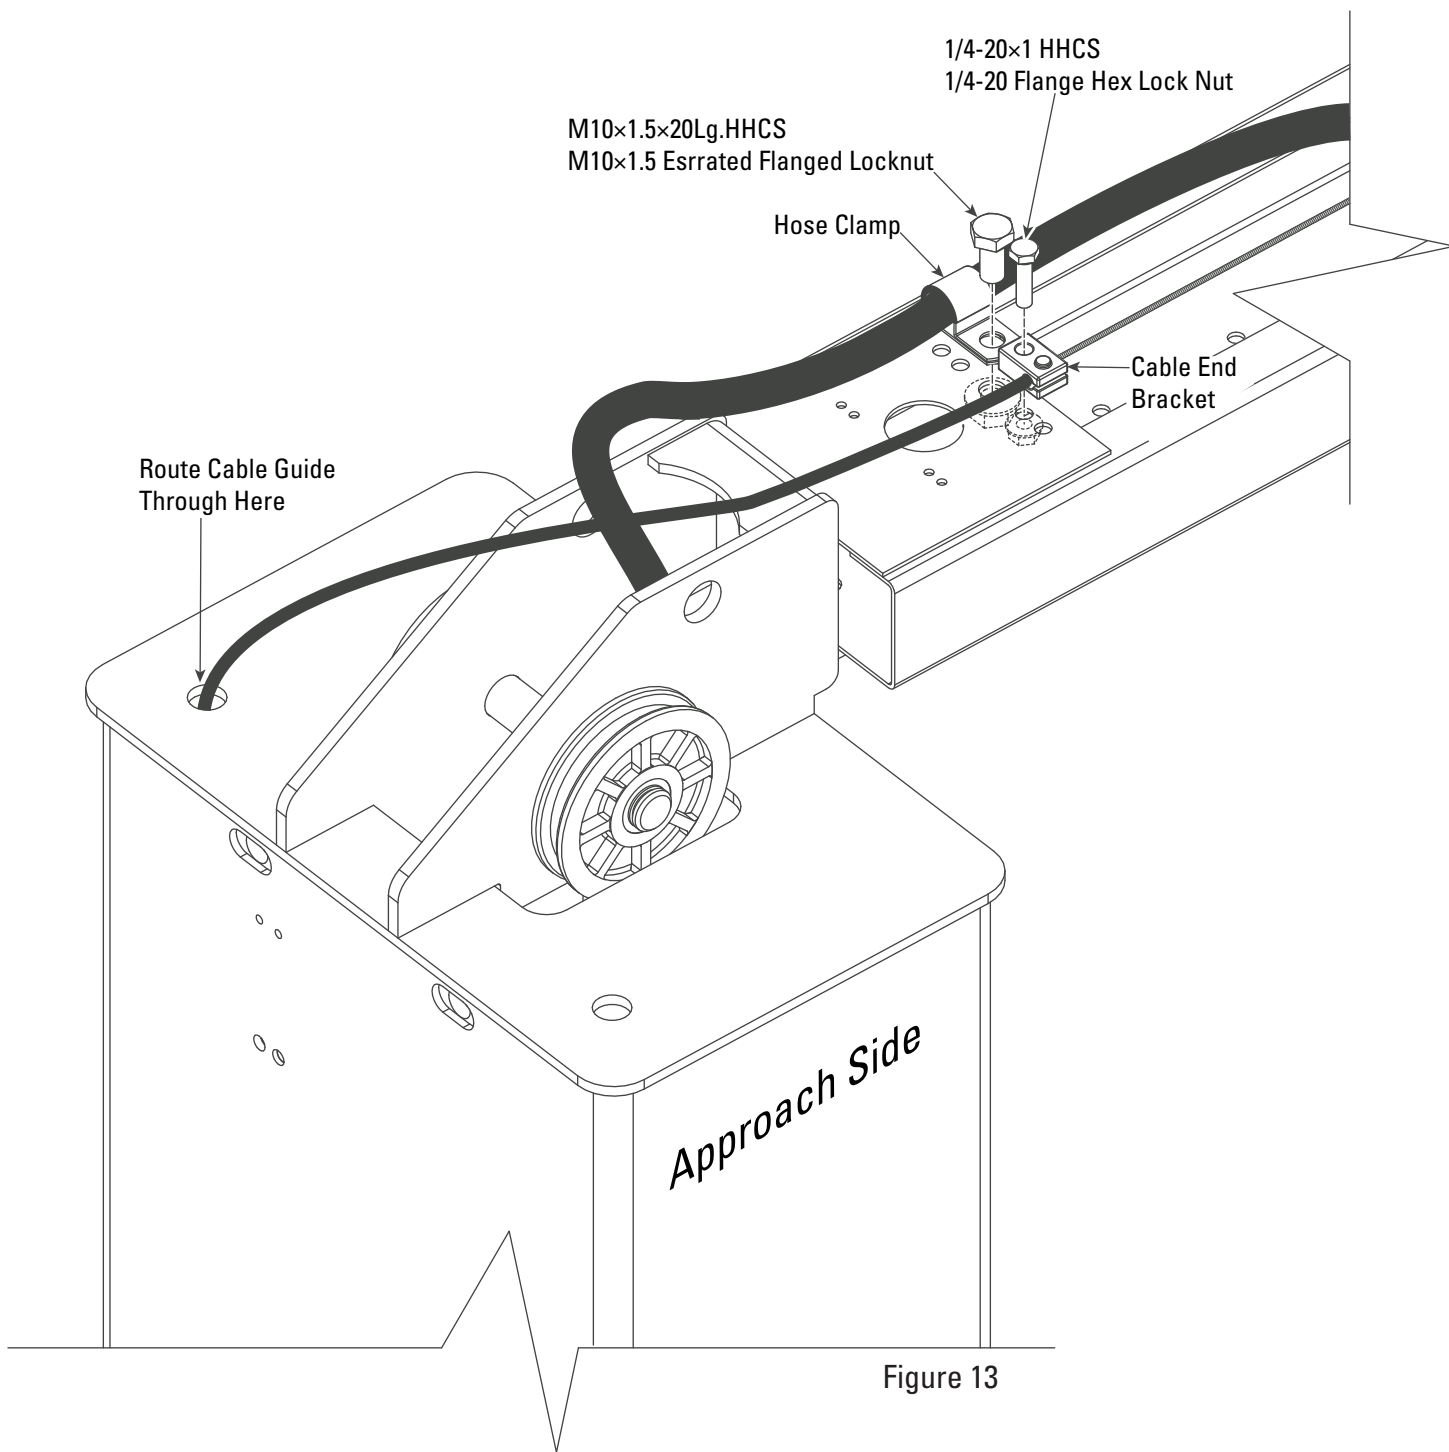
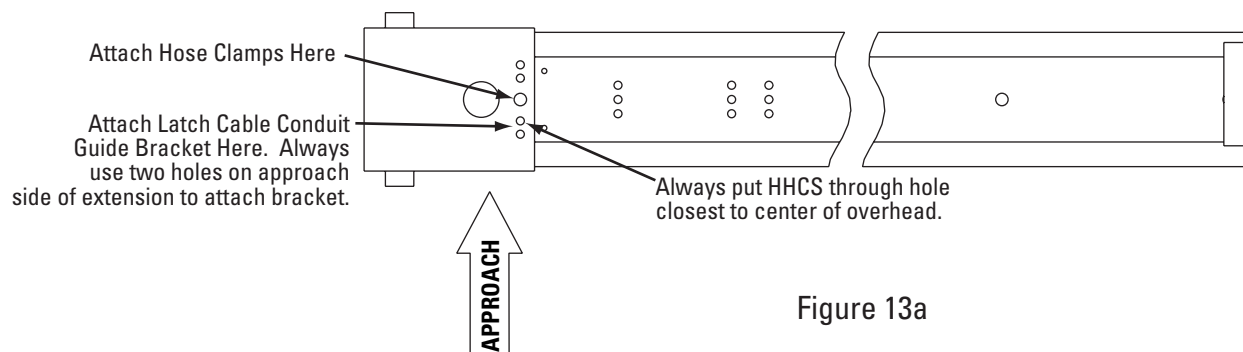
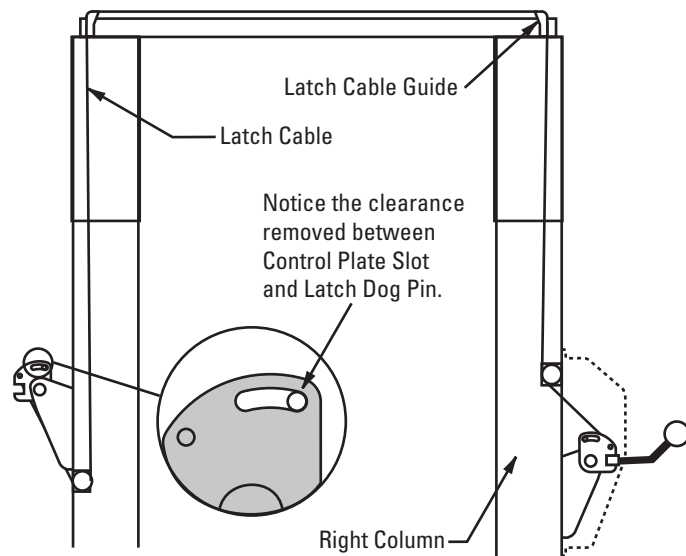

Figure 13
Figure 13a
Figure 15
- D) Attach latch cable conduit guide brackets to overhead as shown, Fig. 13 & Fig. 13a. Always use the holes on the approach side of the lift. HHCS should be in hole nearest the center of the overhead, Fig. 13a.
- E) Route cable up inside column and through the latch cable guide, Fig. 13a & Fig. 15.
IMPORTANT Using wire ties provided, tie off cable guide to column extension as shown, Fig. 13a. Guide must be attached in hole closest to the outside edge of the column on the NON-APPROACH side.
- F) Continue routing cable to the left column latch cable guide, Fig. 13 & Fig. 15, routing the cable through the left column latch cable guide, Fig. 13.
- L) Next, pull the control plate down, Fig. 15 & Fig. 16, to eliminate any clearance between the control plate slot and the latch dog pin, Fig. 15.